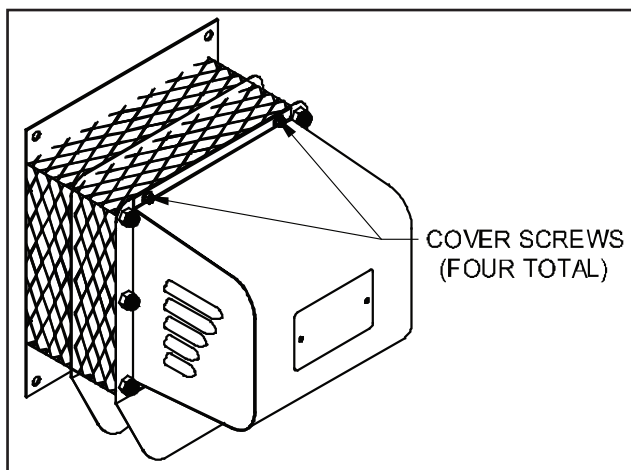

Figure 1
1. Remove motor cover. (See Figure 1)
4. Seal around the edge of the motor mount bracket with high temperature silicone sealant. Install the motor cover with the side louvers pointing downward. (See Figure 1)